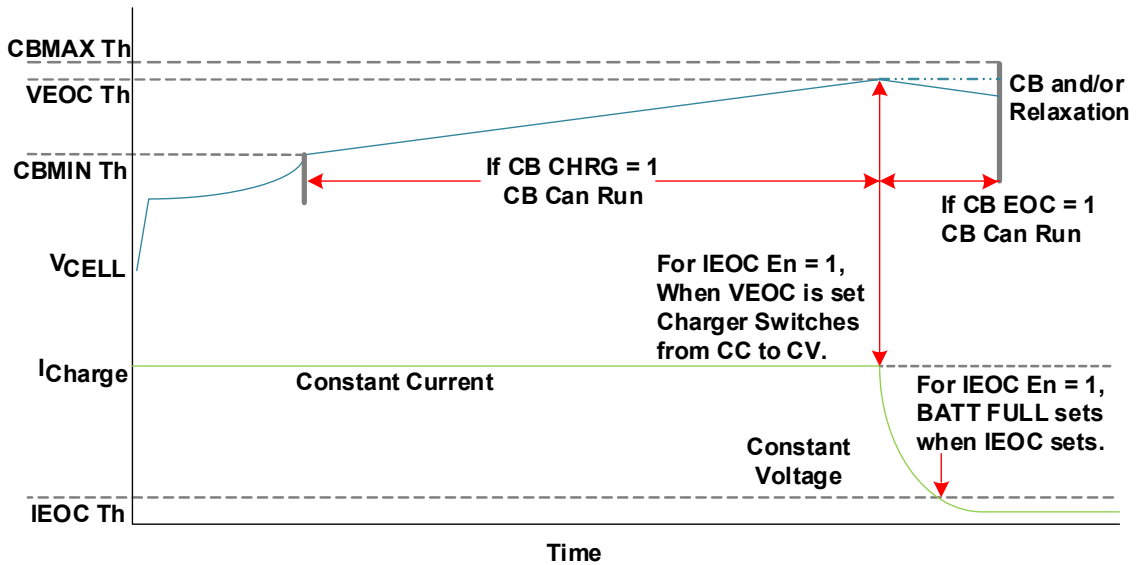

Figure 108. A Typical Charge Characteristic Curve
The ISL94216A has features that support both Constant Current (CC) and Constant Voltage (CV) charging. A typical charging profile for a battery cell is depicted in Figure 108. Cell balancing can occur only when the cell voltage is between the CBMIN and CBMAX limits, which are independent of CB EOC and CB CHR G bit settings.